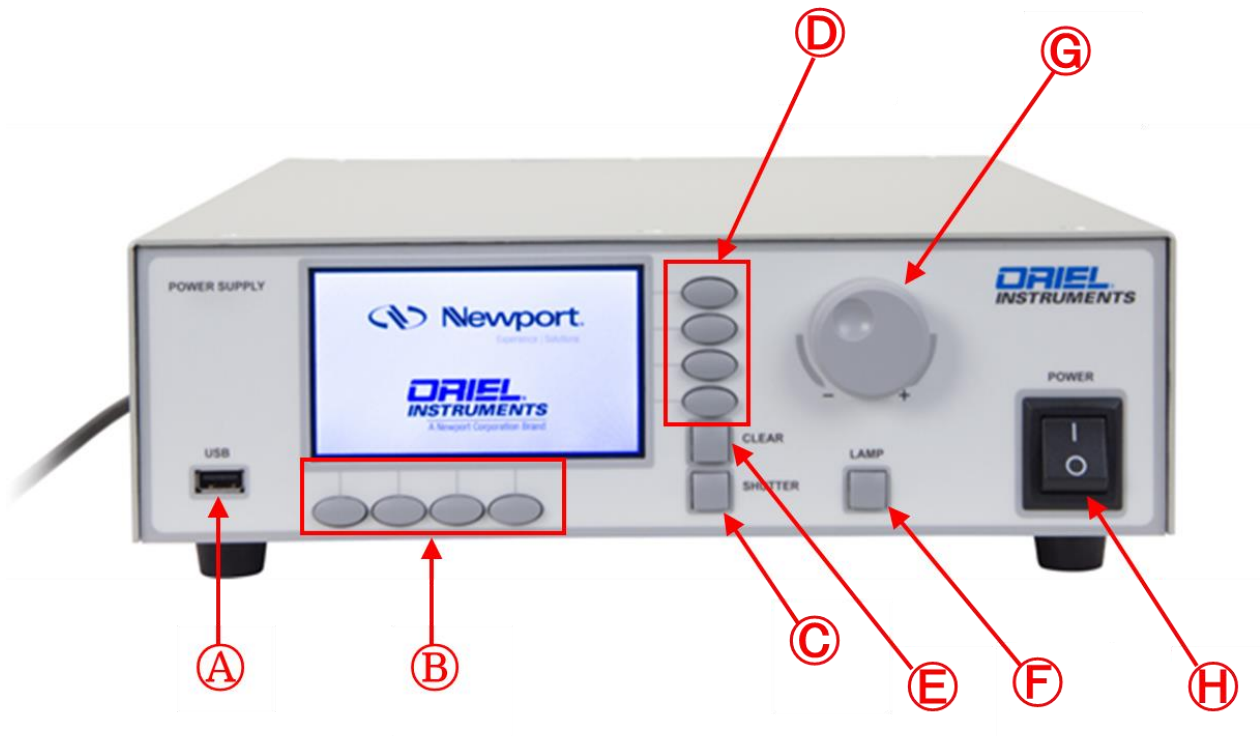

Figure 2 OPS-A Power Supply Front Panel Connections.
- H. POWER.** This is the AC mains power switch. In the ON position as shown in Figure 2, AC power will be switched into the main circuitry of the power supply. There is no output from the power supply until the manual or external command to supply power to the lamp is received with the interlock condition satisfied.